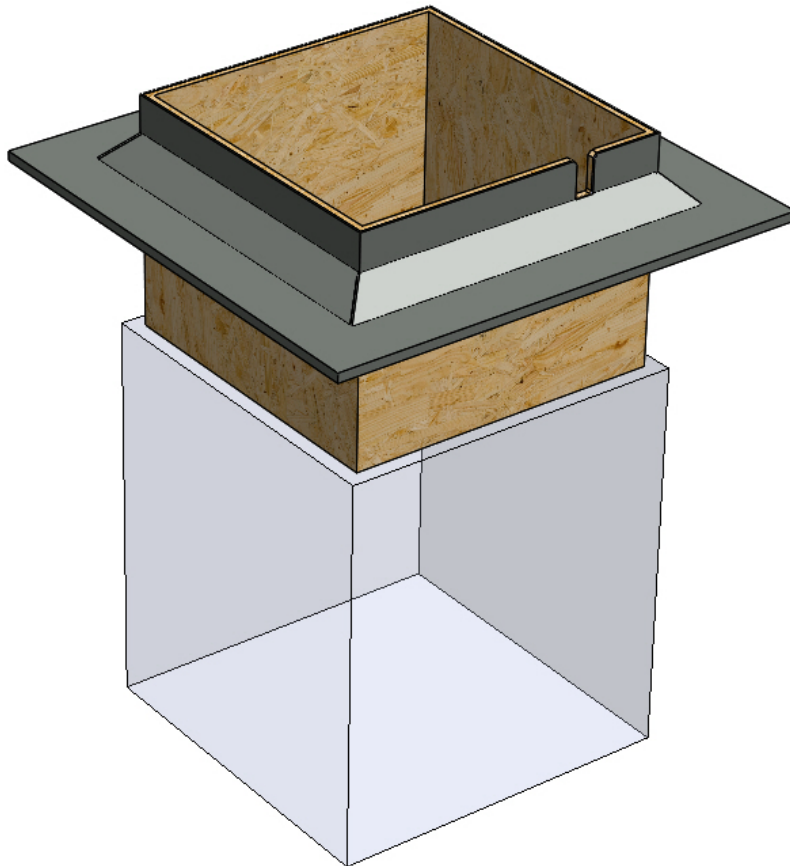

Figure 20 – Upstand dimension details.
1. 18mm Marine plywood upstand to be constructed and fixed by others around the perimeter, with a minimum height of 160mm from the top of the upstand to the roof. This will create an internal opening dimension of 792 x 792mm – see *figure 20*.